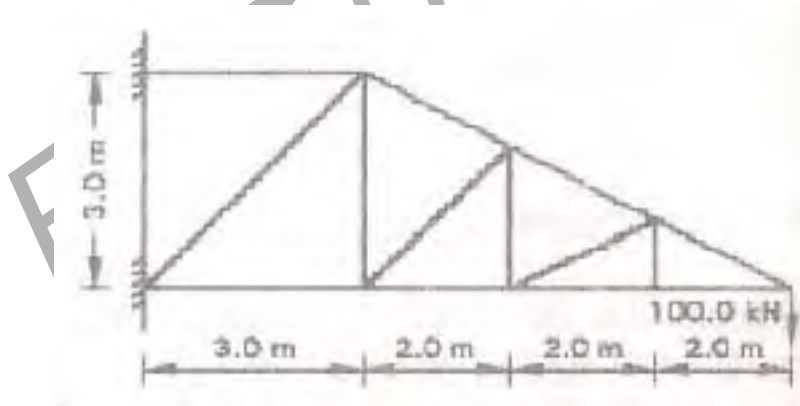

Figure 4
- Analyze the truss indicated in figure 4 by method of sections. [15]